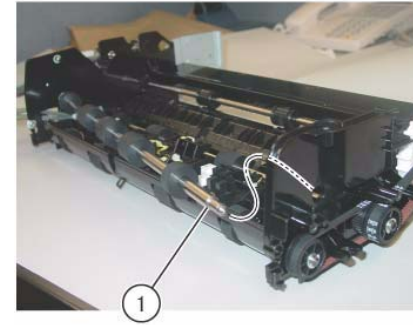

Figure 8 Remove the Takeaway Roll
18. Remove the Takeaway Roll. (Figure 8)